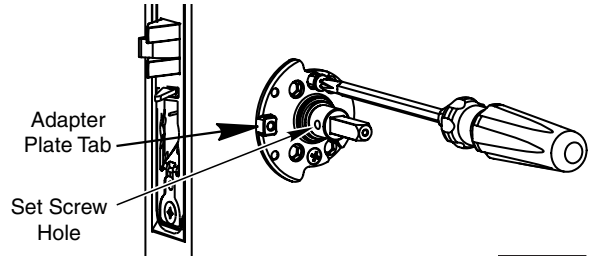

Figure 23
- Slide inside adapter plate over spindle and install using two adapter plate mounting screws. (Figure 23)